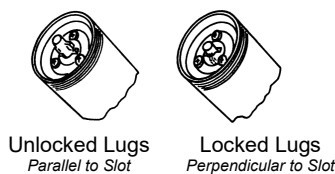

Figure 1
1. Unscrew Barrel from the head and ensure that the follower is in the "Lock" position (Figure 1).
1. Unscrew the barrel from the head and ensure that the follower rod is in the 'Lock' position within the follower plate, as illustrated in Figure 1.